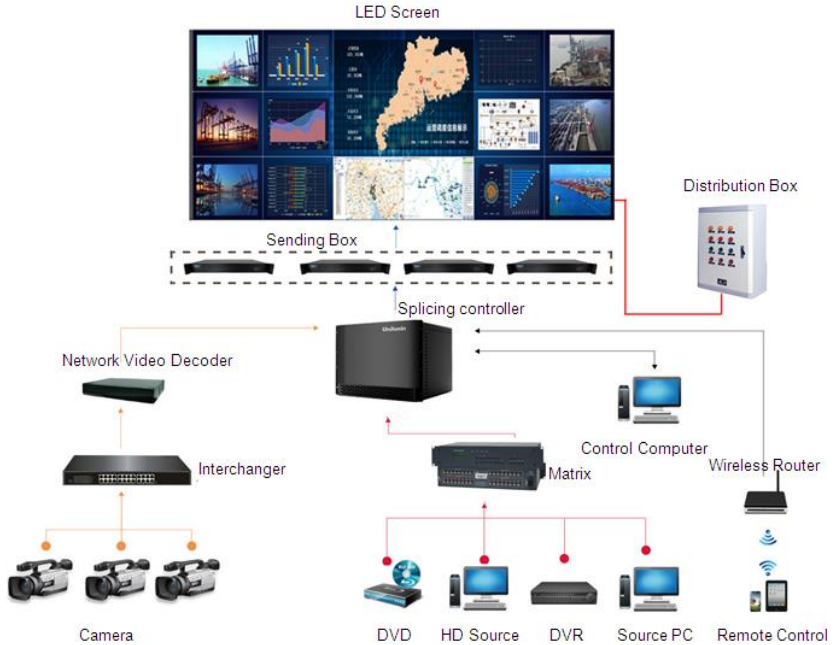

Fig 1-2 System Topology
1. Install the first back strip on the wall that needs to be fixed on according to the screen size, and check whether the back strip is vertical, as shown in Figure 1-2.